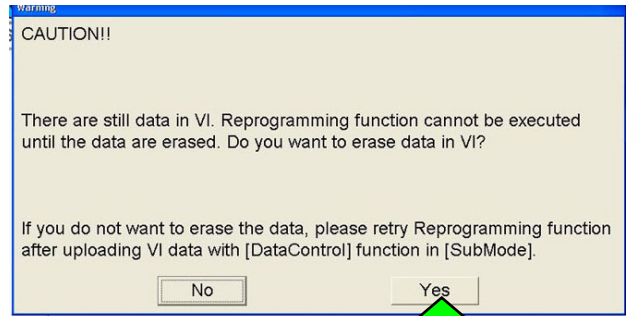

Figure 17
**NOTE:** If the message shown in Figure 17 appears, there is data stored in the plus VI. Select “Yes” to proceed with reprogramming.